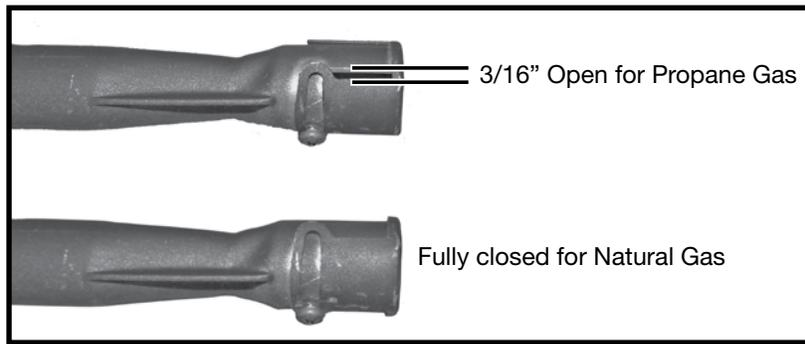

Figure 37: Shutter gap settings.
- Loosen the primary air shutter screw on each burner, open the shutter to give a gap of 3/16" and re-tighten (Figure 37).